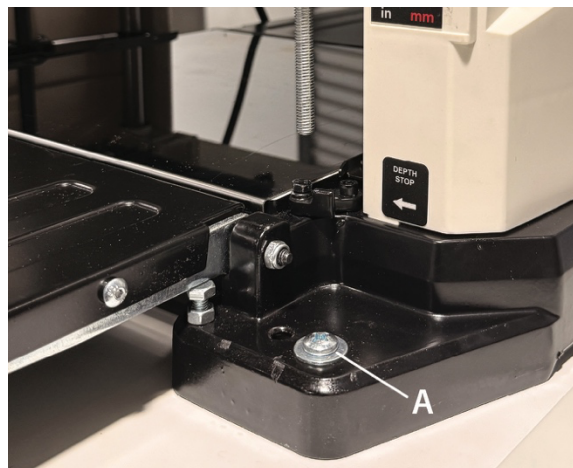

Figure 6-1
2. Put bolts through from the top and secure from below with nuts (A, Figure 6-1).